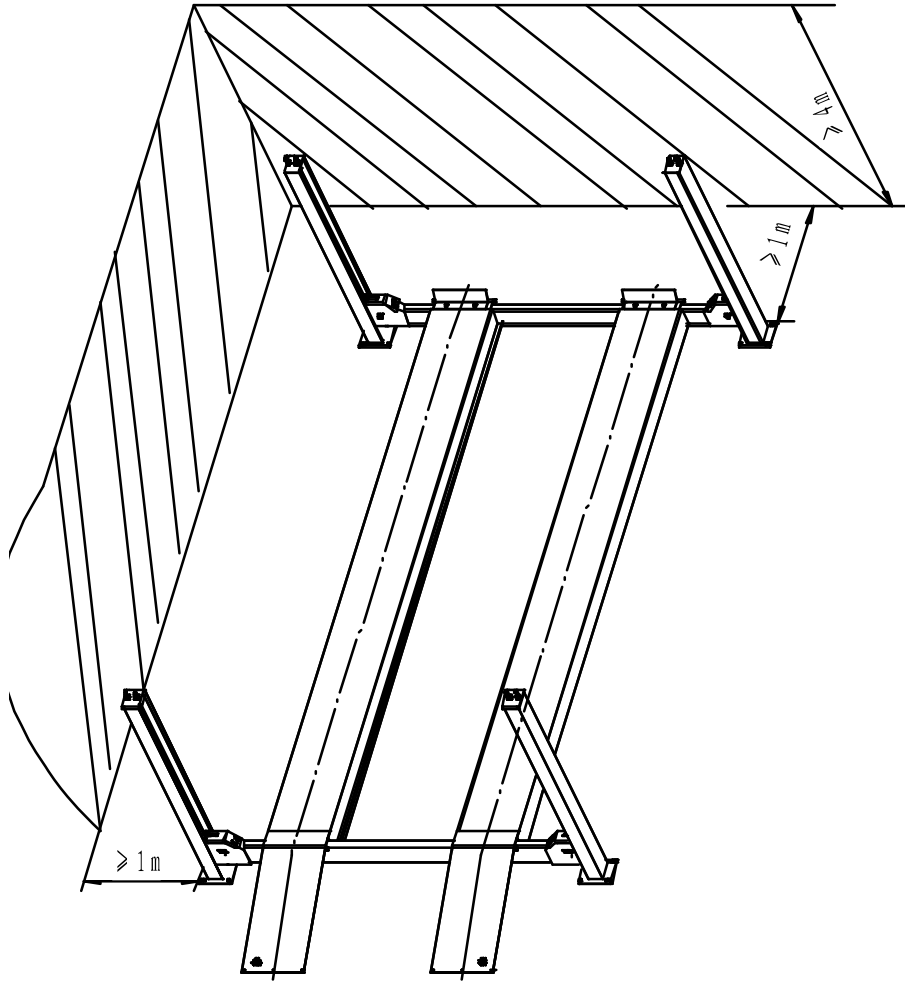

Fig 5
- Allow enough space around the lift for accessing the vehicle. (as in Fig. 5)